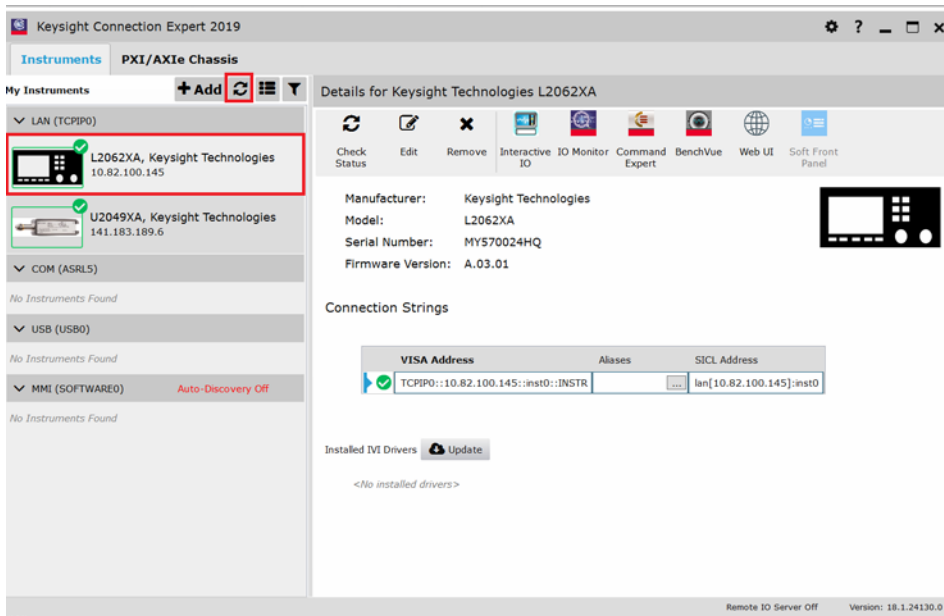

Figure 1-5 Auto-locate a USB instrument in Keysight Connection Expert
- 2 Go to **Start > All Programs > IO Control** () to launch Keysight Connection Expert application. Click **Start a Scan for connected instruments** to auto-locate the sensor as shown in **Figure 1-5**.